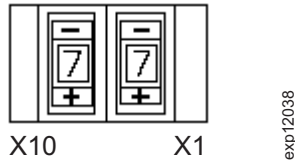

Figure 7. Enclosure ID Switch
- **Enclosure ID switches:** Two enclosure ID switches are located between the power supplies at the rear of the EXP100. These switches identify the EXP100 on a Fibre Channel loop. To set the values, use the end of a paper clip or a small flat-blade precision screwdriver to press the small, recessed buttons on each switch. The top (-) buttons decrease the value and the bottom (+) buttons increase the value, as shown in Figure 7 on page 21, which displays an example